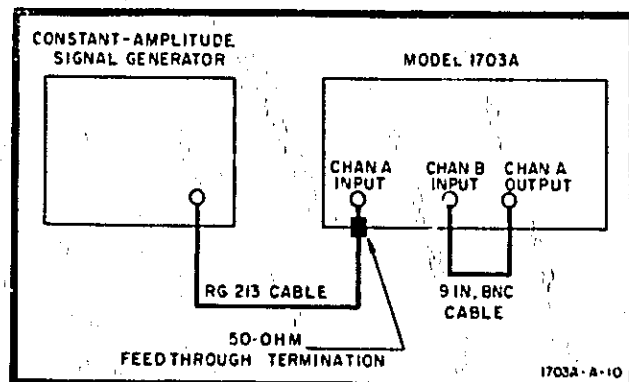

Figure 5-8. Cascaded Amplifier Bandwidth Test Setup
- a. Connect instruments as shown in figure 5-8.